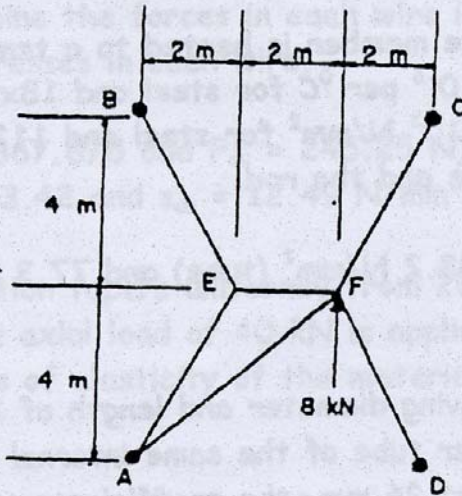

FIG 11
11. Figure 11 shows a plan of a three-dimensional frame which is pinned to level ground at A, B, C and D the horizontal member EF being 4 m above the ground. The frame carries a vertical load of 12 kN at E and a horizontal load of 8 kN at F.